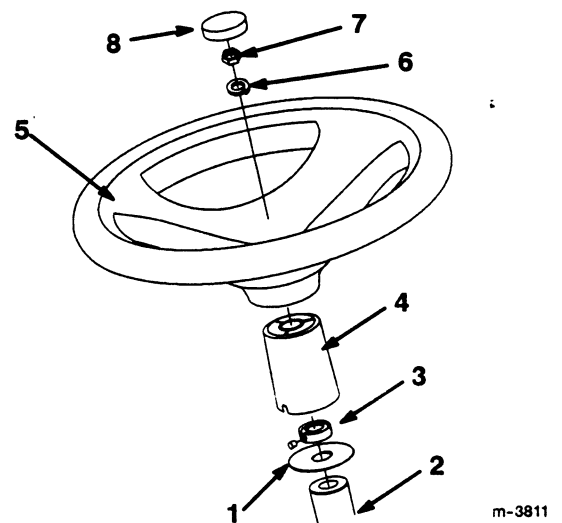

Figure 7
4. Secure the steering wheel to the shaft with a lock washer and nut (Fig. 7). Tighten the retaining nut to 45-50 ft-lbs.
5. Install the trim cover on the steering wheel (Fig. 7).
6. Lift up on the spacer until it is tight against the steering wheel and slide the lock ring up tight against the spacer (Fig. 7).
7. Secure the lock ring in place using the set screw (Fig. 7).
1. Slide the boot washer, lock ring with set screw, and spacer (large end down) onto the steering shaft (Fig. 7).
2. Remove the plastic trim cover from the steering wheel (Fig. 7)
3. Install the steering wheel onto the shaft, carefully aligning the splines (Fig. 7).